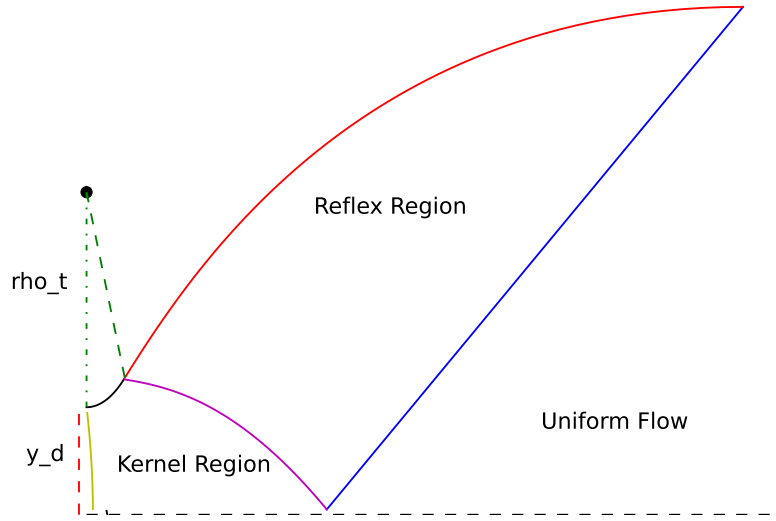

Figure 1: Nozzle Parametrization
8. **Design Variables:** Refer the Figure 1 for details about the parameters.